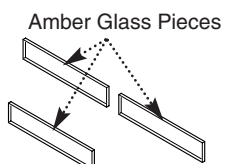

Fig. 44
6. Carefully remove the three amber glass pieces (Fig. 44).